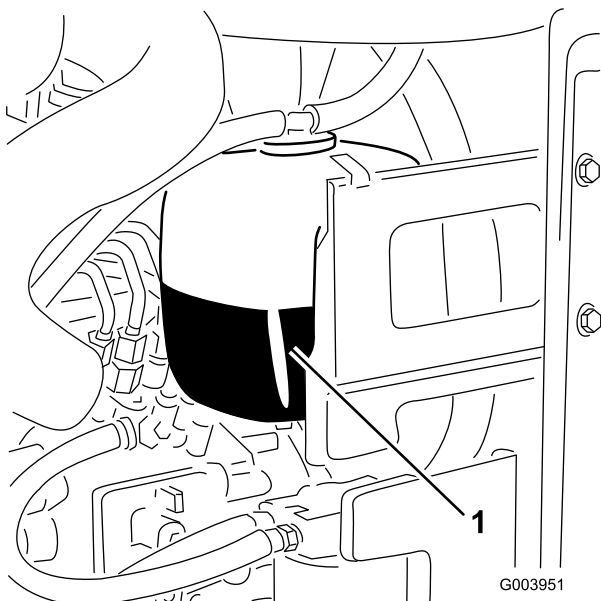

Figure 34
1. Check the level of coolant in the expansion tank (Figure 34).